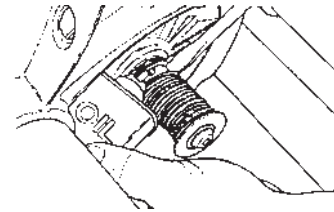

Figure D-3
12. To oil the motor's floating sheaves, rotate the main spindle by hand until you find the hole in its sleeve. This hole may be difficult to find because of the spring that fits over the sleeve. When you find the hole, spread the coils of the spring over the hole with a large blade screwdriver. Then apply 2-5 drops of oil in the hole, as shown in Figure D-3.